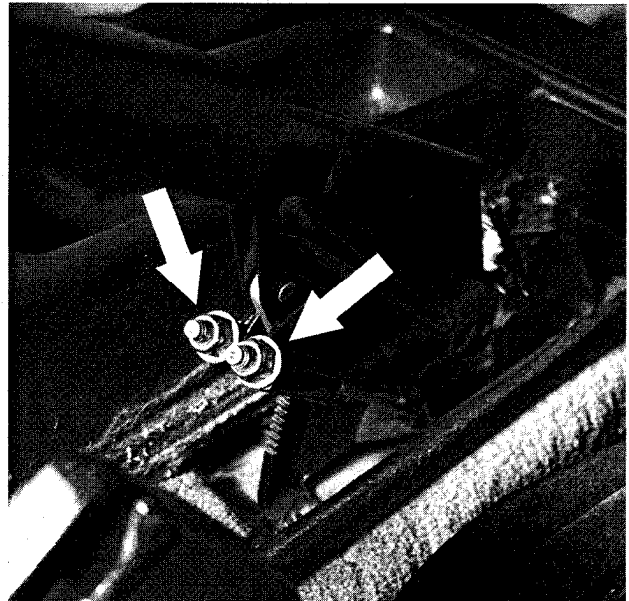

Fig. 15. Parking brake cable adjusting nuts (arrows).
3. Working inside car, lift parking brake lever boot out of console. Remove cable adjusting nut. Refer to Fig. 15.
1. Lift parking brake lever boot out of console. While holding cables stationary, loosen parking brake cable nuts until cables are completely slack. See Fig. 15.